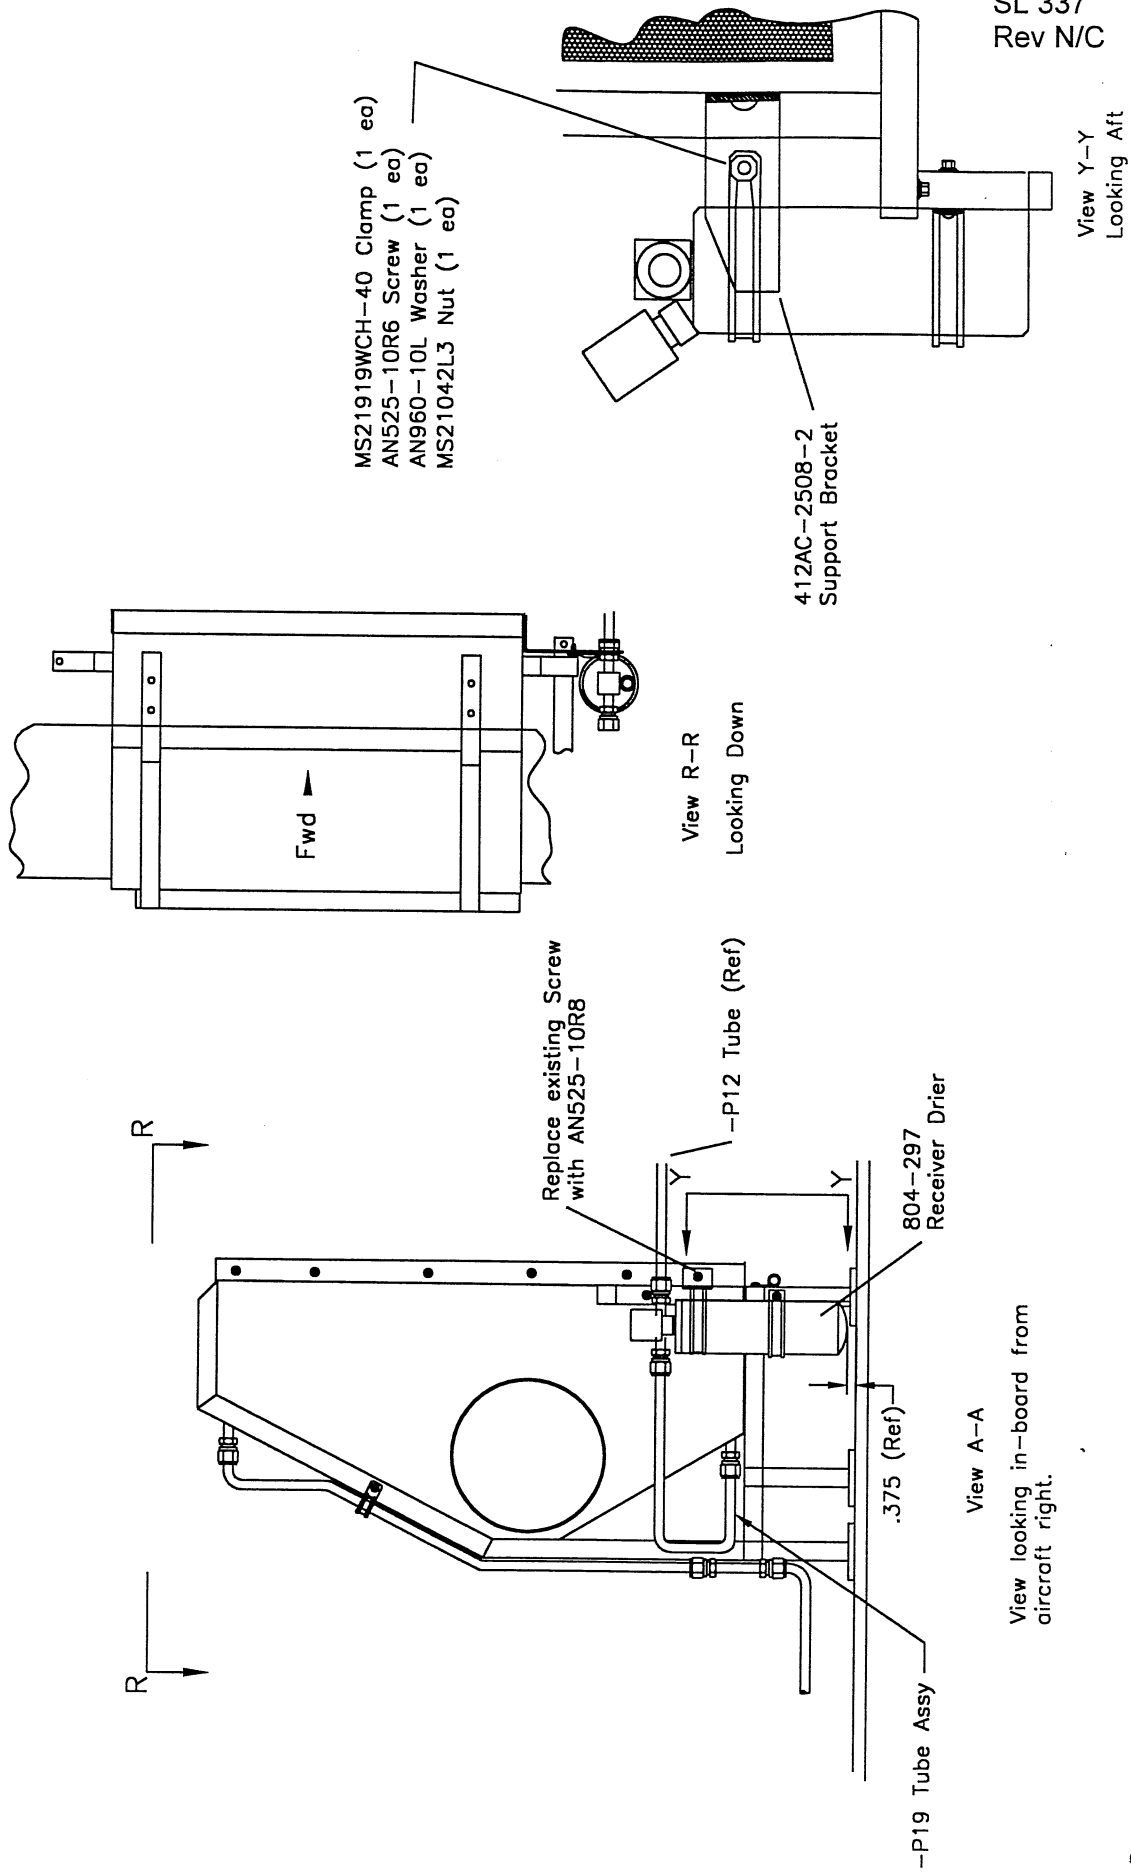

Figure 1-2, Receiver Drier Bottle Support Bracket Mounting
2. Remove one (1) each of a AN525-10R6 Screw, from the lower R/H forward corner of the Condenser Enclosure Assembly. (See Fig. 1-2, View A-A)
1. Align the 412AC-2508-2 Bracket with the Screw Hole left vacant from the removal of the AN525-10R6 Screw in the lower R/H forward corner of the Condenser Enclosure Assembly, and match drill using a .1890 Dia drill bit. (See Fig. 1-2 View A-A)
3. Install one each of the MS21919WCH-40 Clamp on the upper portion of the 804-297 Receiver Drier Bottle. Rotate Clamp to align with the aft surface of the 412AC-2508-2 Bracket, and mark location of hole. (See Fig. 1-2, View Y-Y).